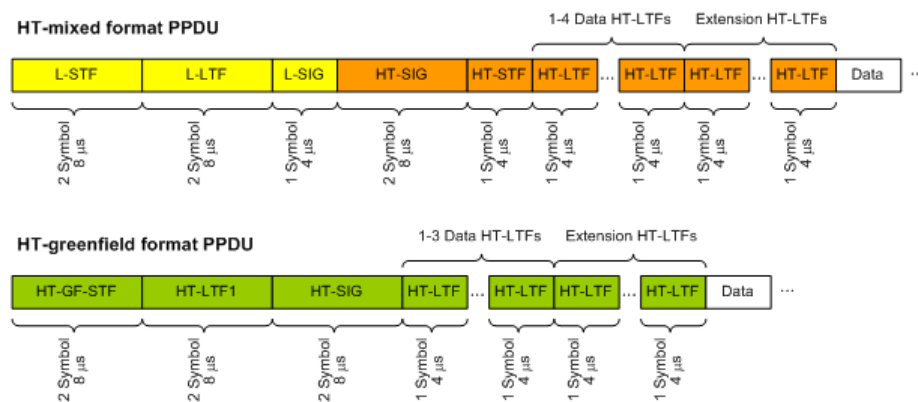

Fig. 4-4: Training fields (TF) in the preamble of PPDU in IEEE 802.11n standard
For each space-time stream, at least one training field (the (V)HT-LTF) is included in every PPDU preamble (see figure 4-4). Each sender antenna transmits these training fields, which are known by the receive antenna. The effective channel can be calculated from the received (and known) (V)HT-LTF symbols of the preamble, without knowledge of the spatial mapping matrix or the physical channel. Thus, the effective channel can always be calculated.
(For IEEE 802.11n see also figure 4-4)